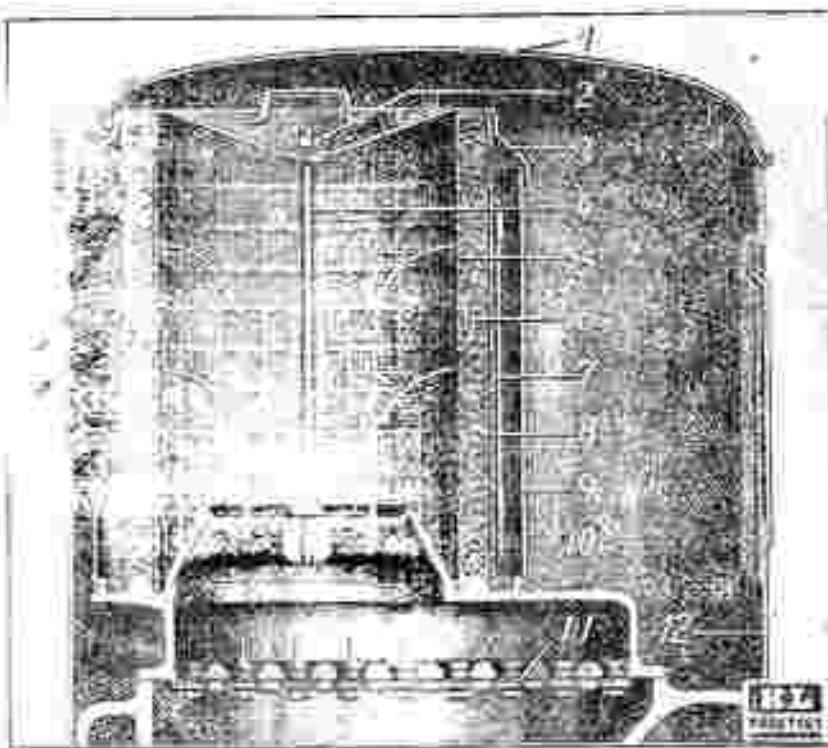

Fig. 58. Sectional view of air cleaner.
It consists of coir padding, moistened with oil and inserted between the inner screen cylinder (5), Fig. 58, and the outer cage (7), in which the dust is deposited.
To clean the air cleaner, open cowling cover (1), Fig. 58, unscrew air cleaner fastening nut (2) and lift the air cleaner out of its housing.